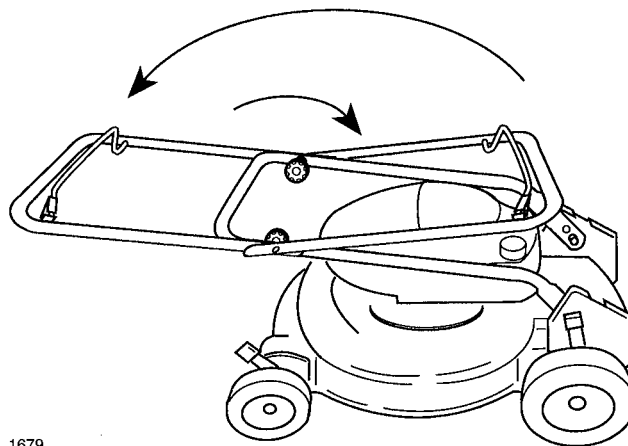

Figure 35
2. Rotate handle toward front of mower (Fig. 35).
4. For long term storage, fold handle as shown in Figure 35.